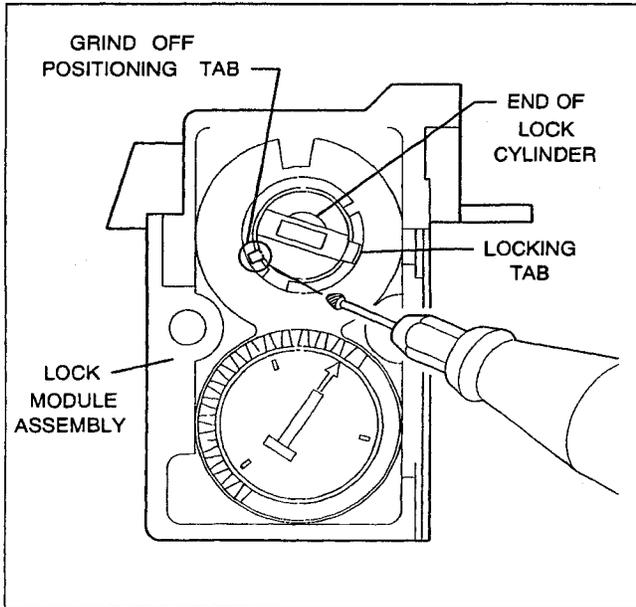

Figure 12 - Grinding Off Lock Cylinder Positioning Tab
17. Remove positioning tab on end of lock cylinder (17) using an 1/8-inch burring tool. (See Figure 12)
- Remove all burrs in and around lock module assembly (15) and lock cylinder (17).
18. From inside module assembly (15) push on locking tab and pull lock cylinder (17) from lock module assembly (15) and upper shroud (10).